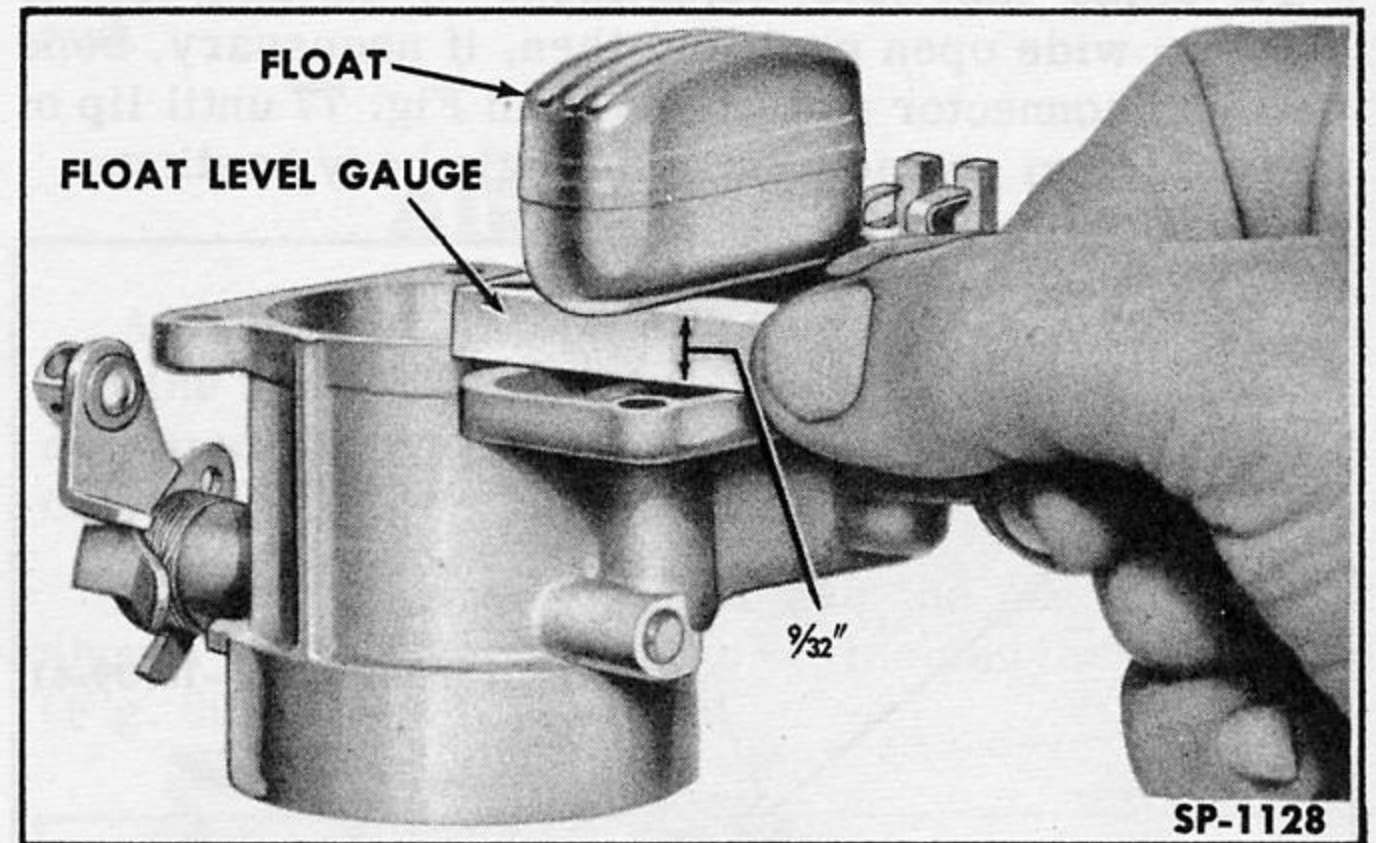

Fig. 75—Checking Float Level
9. Install float on air horn with float pin. Shoulder of pin should be on side nearest carburetor wall. Obtain a piece of stock that is 9/32 inch thick for use as a float level gauge. Hold air horn assembly upside down (float on top) and check distance between float and gasket surface of air horn as shown in Fig. 75. Float should just contact gauge. If not, adjust float level by bending tip on float — do not bend float arm.
6. Obtain a piece of 9/32 inch thick stock for use as a float level gauge. Hold air horn assembly upside down (float on top) and check distance between float and air horn as shown in Fig. 75. Float should just contact gauge. If not, adjust float level by bending lip on float — DO NOT BEND FLOAT ARM.